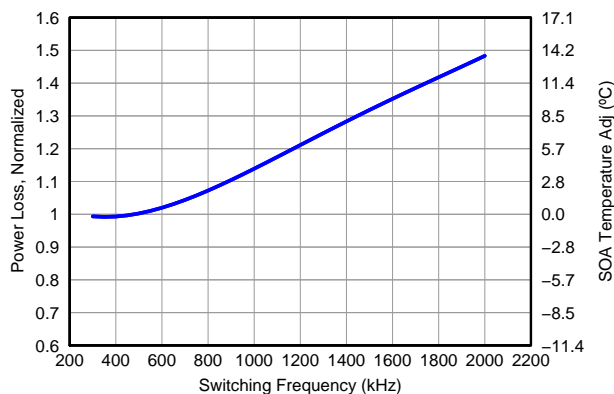

Figure 12. Normalized Power Loss vs Frequency
- Normalized Power Loss for switching frequency  $\approx 1.08$  (Figure 12)
- SOA adjustment for switching frequency  $\approx 2.6^{\circ}C$  (Figure 12)